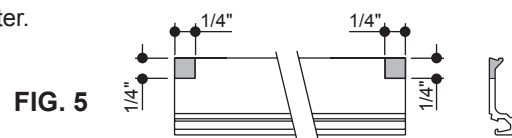

FIG. 5
STEP 2: Make a 1/4" by 1/4" notch at each end of the vertical glazing adapter. Notch should be made on the face side of the adapter nearest the gasket reglet as shown (Figure 5)